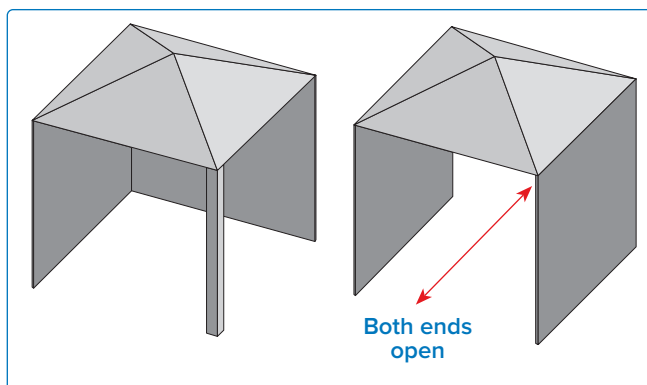
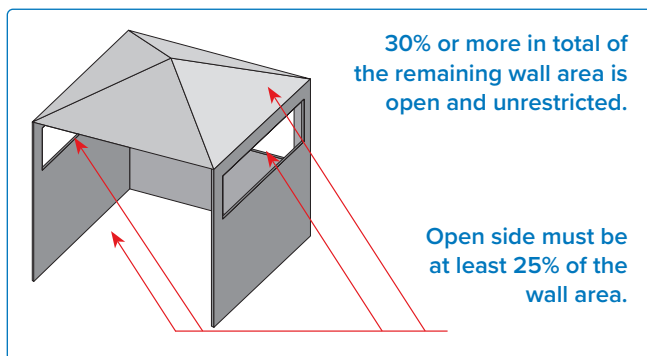

Fig. 2
Fig. 3
- » The side walls may be parallel (such as a breezeway) or perpendicular to one another (**Fig 2 & Fig 3**).